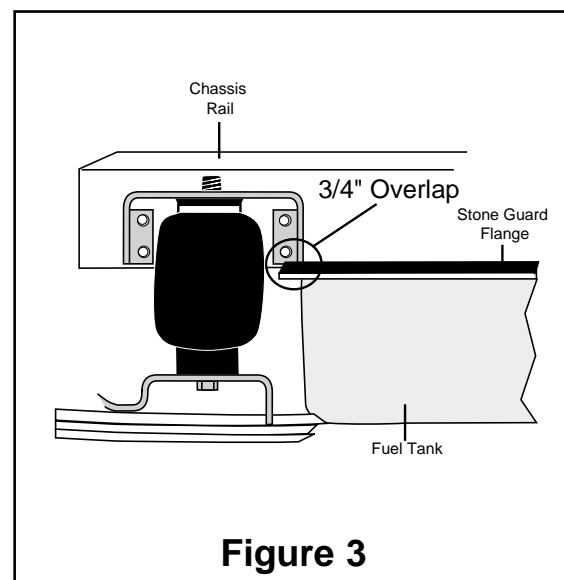

Figure 3
4. Position the upper bracket so that the lower edge of the bracket legs are flush with the lower edge of the chassis rail (Figure 3). **If your vehicle is equipped with a fuel tank stone guard, the trailing edge of the upper bracket leg should rest on the flange of the fuel tank stone guard and overlap no more than 3/4" (Figure 3).** The normal mounted height of the sleeve should be between 5.5" and 7" tall. The kit must be mounted behind the axle. It may be necessary to trim the inner fender (plastic) to clear the air fitting.